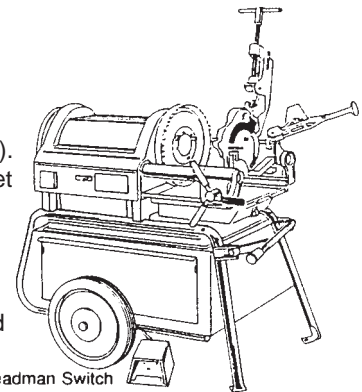

Figure 21.62
**Power Threading Machines** (Figure 21.62).